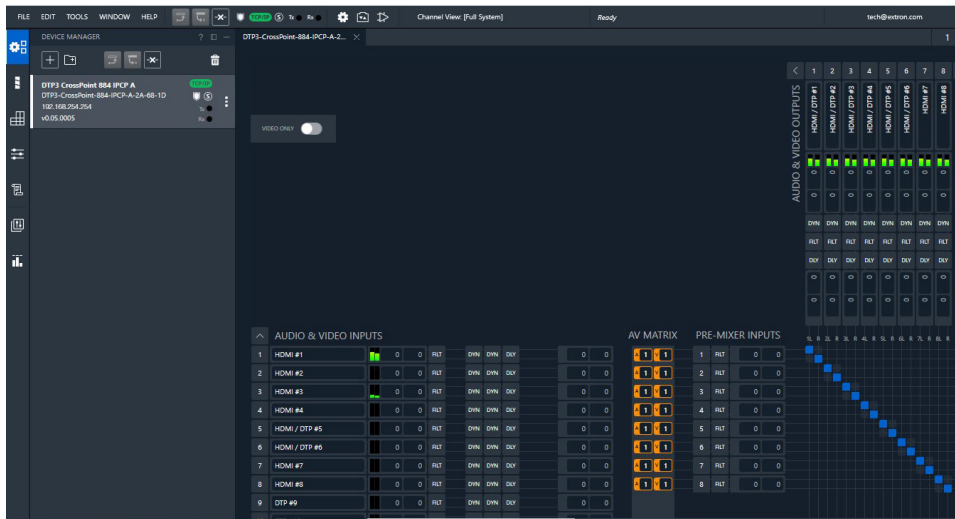

Figure 40. Device Manager
6. Double click the device in the Device Manager panel to open its configuration in the workspace (see figure 40 on page 88).